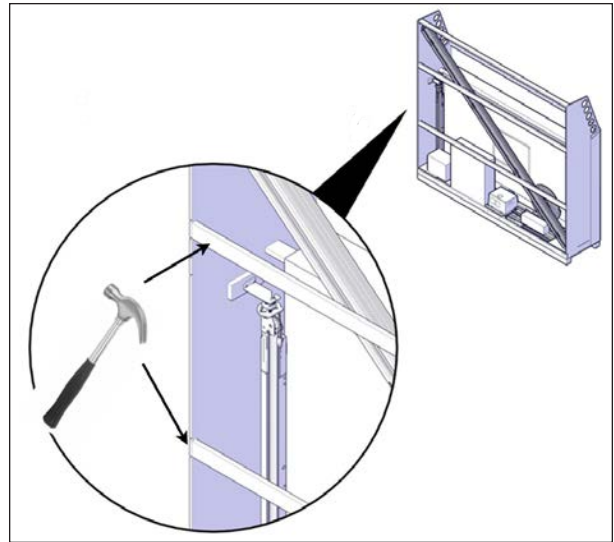

FIGURE 22: REMOVE CARDBOARD AND STRIPS
3. Hammer off the wood furring strips by hitting on the inside of the side panels Figure 22.